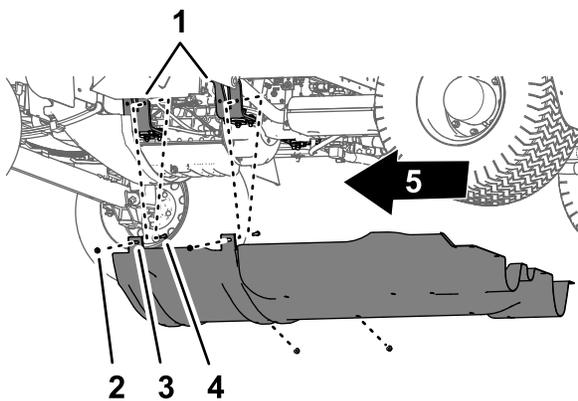

Figure 65
2. Remove the 4 flange locknuts (5/16 inch) from the bolts and carriage bolt that secure the mounting tabs of the undercarriage shroud to the engine-mount brackets of the machine (Figure 65).
4. Remove the undercarriage shroud from the machine (Figure 64 and Figure 65).
1. Align the undercarriage shroud to the bottom chassis of the machine; refer to Figure 65 in Removing the Undercarriage Shroud (page 51).
2. Move the mounting tabs of the undercarriage shroud over the bolts and carriage bolt at the engine-mount brackets of the machine; refer to Figure 65 in Removing the Undercarriage Shroud (page 51).
3. Assemble the undercarriage shroud to the engine-mount brackets and bolts (Figure 65) with the 4 flange locknuts (5/16 inch) that you removed in step 2 of Removing the Undercarriage Shroud (page 51).